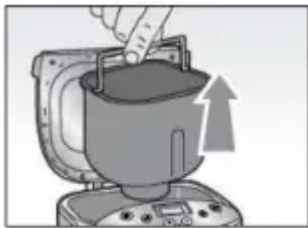

Figure 4
17. Bread pan and baking chamber will be hot and oven mitts should be used. Remove the bread pan by lifting the handle and turning it counter-clockwise to unlock and pull bread pan straight up from the base of the chamber. (Fig 4).